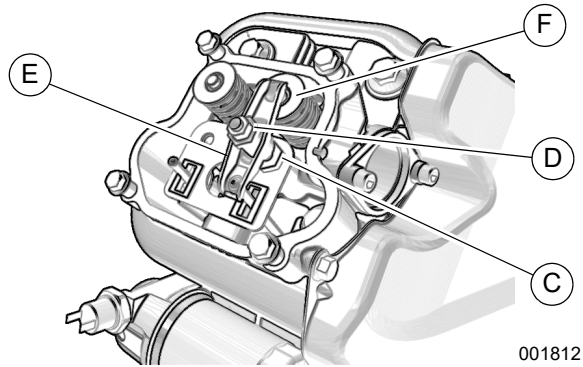
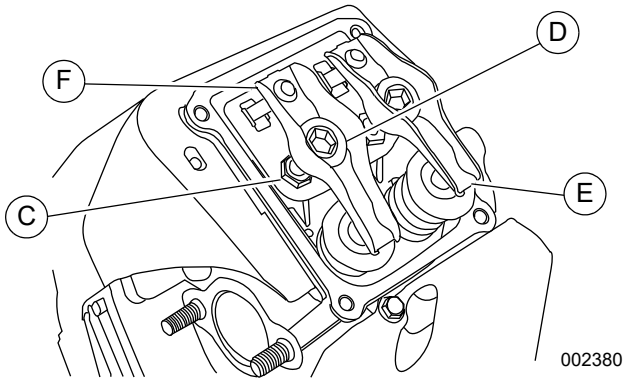

Figure 4-7. Valve Clearance Adjustment (10 kW)
Figure 4-8. Valve Clearance Adjustment (20–24 kW)
- See Figure 4-7 or Figure 4-8. Verify valve clearance between each rocker arm (E) and valve stem (F) with a feeler gauge.
See Figure 4-7 or Figure 4-8. Proceed as follows to adjust valve clearance: